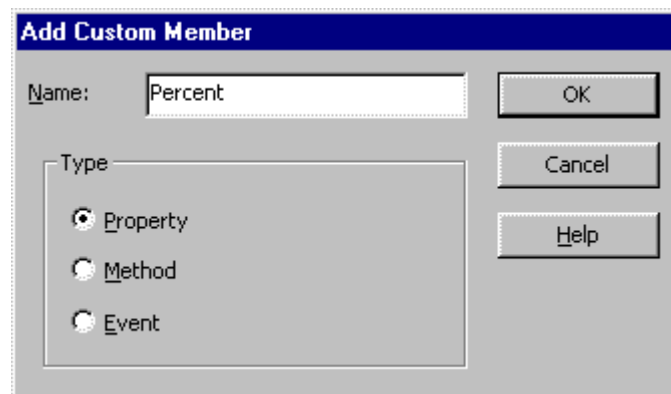

Figure 12. Add a new element with this dialog box.
4. **Add custom items:** On the next page, you can add custom properties, methods, or events. In this case, add a new property named **Percent**. Make sure you indicate that it's a property, as shown in Figure 12.